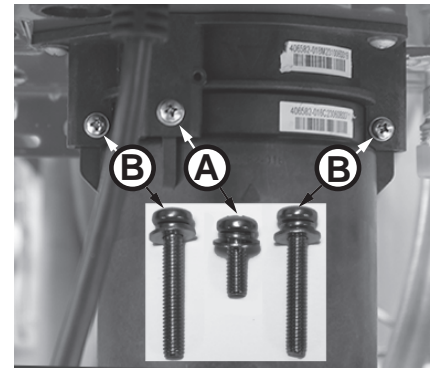

Figure 60 - Identify cartridge screws
- 6 Locate the three screws securing the X3®/Bypass cartridge as shown in Figure 60. Remove the (A) M4-12mm screw and the two (B) M4-25mm screws from cartridge. Place screws aside in a safe place for reinstallation.